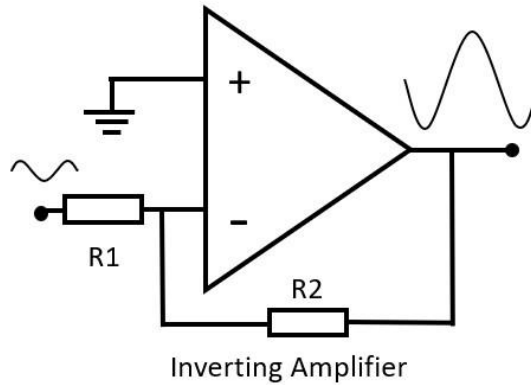

Figure 3: Inverting amplifier.
2. **The Inverting amplifier** changes the signal by 180 degrees. The gain of the amplifier is determined by the ratio of R_1 and R_2 (Figure 3).